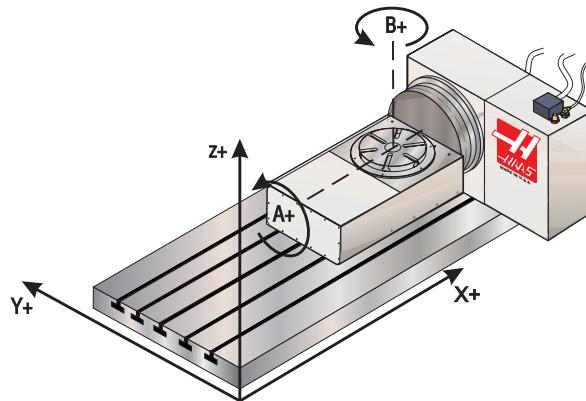

Fig. 3.7-1 Work coordinates (Positive direction).
**NOTE:** Figures 3.7-1 and 3.7-2 represent one of many possible machine tool and table configurations. You may have different table movements for positive directions, depending on the equipment, parameter settings, or five-axis software being used.